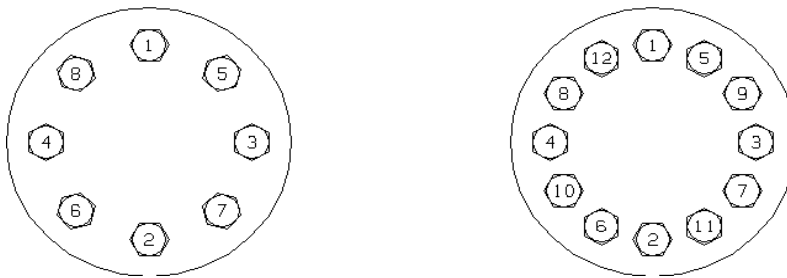

Figure 8 - Bolting Torques and Tightening Sequence
Care must be taken to ensure that the cage, seat, and bonnet are properly aligned in the body. Cage should be installed with parts at lower end, near seat ring. Tighten nuts (10) until metal to metal contact is obtained with proper bolt torque. Refer to Figure 8 for proper bolt torque and tightening sequence specifications.
- G. Insert packing (6) [and lantern ring (7) on valve equipped with an optional lubricator or lead detection connection. Refer to Section 7.6 for proper packing assembly procedure for standard or optional designs.
- H. Install packing follower (5) and packing flange (4).
- I. Install packing flange stud nuts (3).